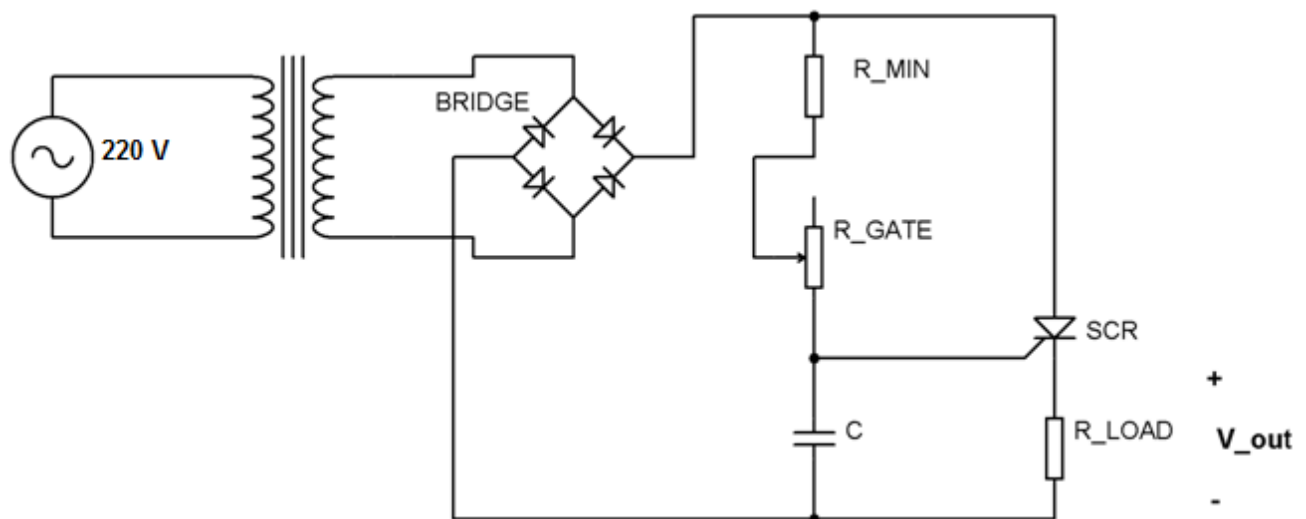

Figure 3. Full wave rectifier using RC-triggering
2. Arrange the circuit as shown in Figure 3.